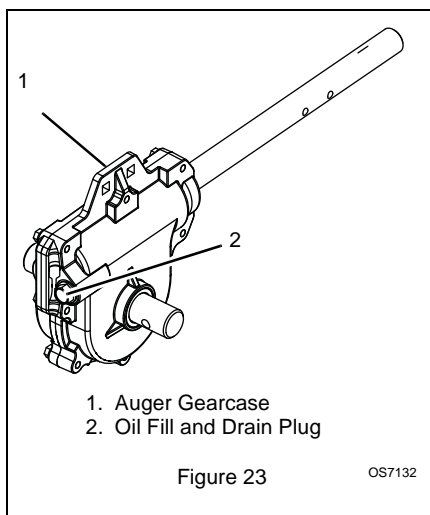

Figure 23
1. Remove filler plug (Figure 23). Lubricant must be at least up to bottom of lubricant filler hole with unit resting on a level surface.